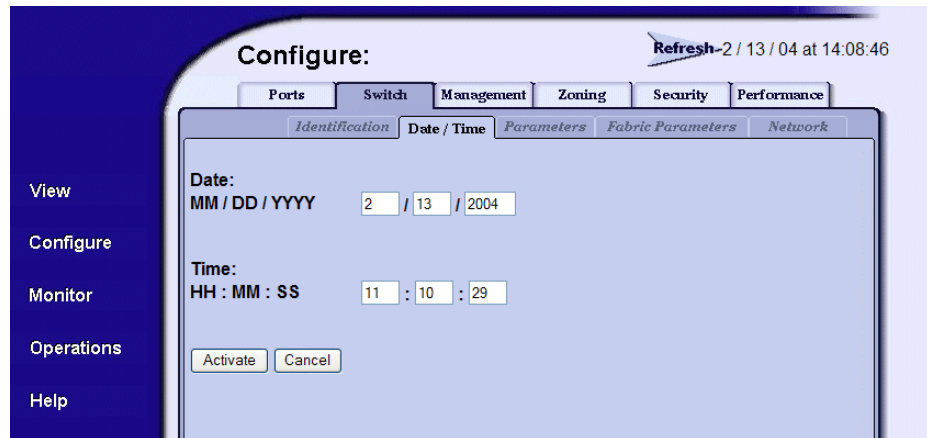

Figure 6: Configure Date and Time tab view
1. Choose **Configure** from the navigation panel. Choose the **Switch** or **Director** tab, as appropriate. Click the **Date/Time** tab to display the **Date/Time** tab view (Figure 6).